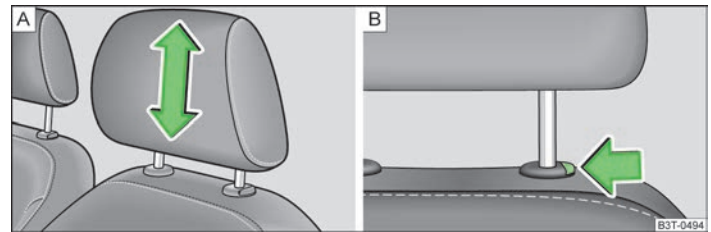

Fig. 47 Head restraint: adjusting/removing
- Grasp the side of the head restraint with both hands and push it upwards as required » [Fig. 47 - \[A\]](#).
- To move the head restraint downwards, press and hold the safety button » [Fig. 47 - \[B\]](#) with one hand and press the head restraint downwards with the other hand.
- Press the locking button in direction of the arrow » [Fig. 47 - \[B\]](#) and pull the head restraint out.